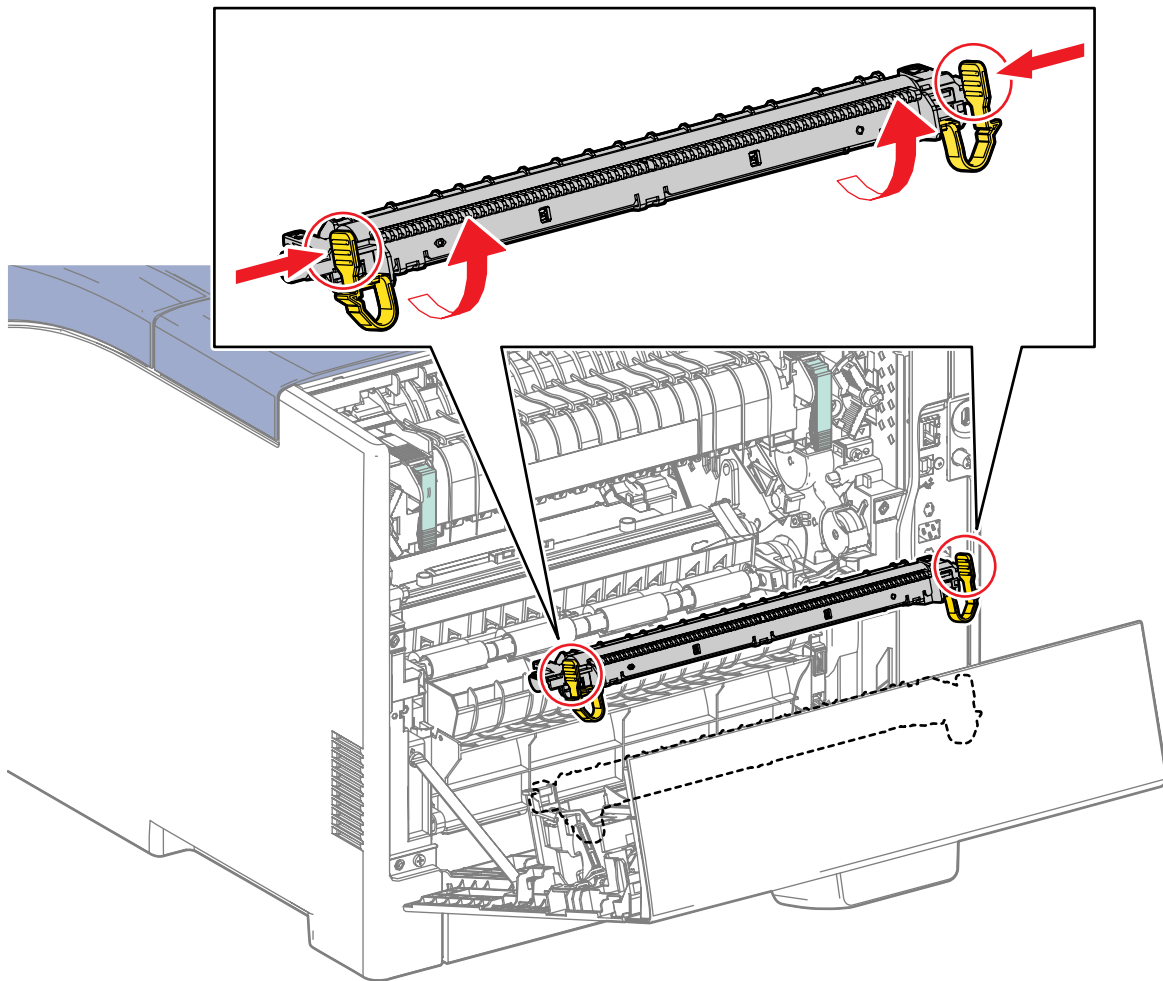

Figure 1
2. Press 2 clips on the left and right sides and rotate the Transfer Roller Assembly upward to remove it. (Figure 1)